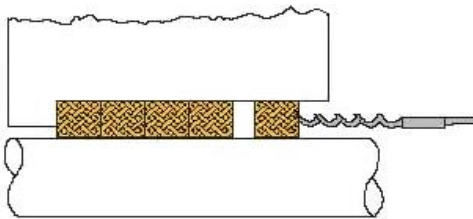

Figure 6. Removing Packing with Hook
5. Refer to Figure 6; remove all old packing rings (180) by using the proper size packing removal hook. The lantern ring (29) will remain on the shaft (6) and should be slid to near the slinger (40).